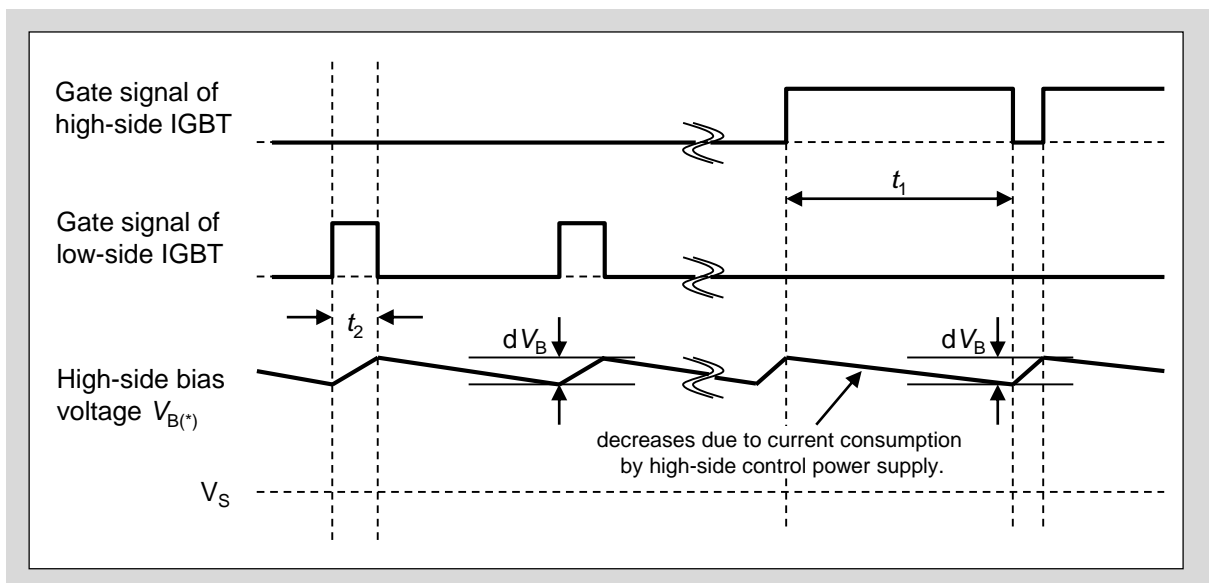

Fig. 3-10 Timing chart of charging and discharging operation
- * dV : allowable discharge voltage of $V_{B(*)}$ (refer to Fig.3-10)
- In the case of the control mode which only the high-side IGBT performs switching operation (Fig. 3-10), the time constant should be set so that the discharged voltage can be fully recharged again during the high-side IGBT OFF (low-side FWD ON) period.